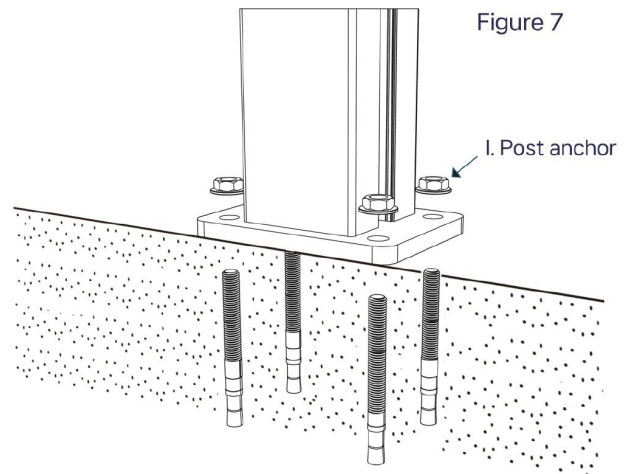

Figure 7
- 7.** Position the post base in place, as shown in Figure 7, and secure it using post anchors.